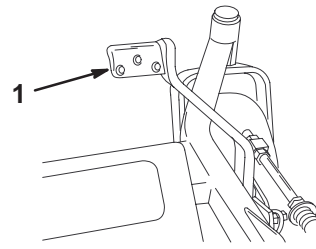

Figure 17
2. Press on the lift assist while pulling up on the height-of-cut lever (Fig. 17).